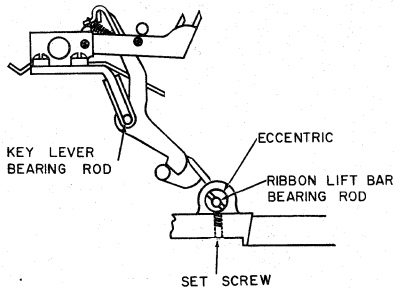

Figure 64
2. Loosen the set screws for the ribbon lift bar bearing rod eccentrics and set the eccentrics so the high points are toward the key lever bearing rod (Figure 64). Note that the screwdriver slots cut through the high and low points. Do not tighten the set screws at this time.